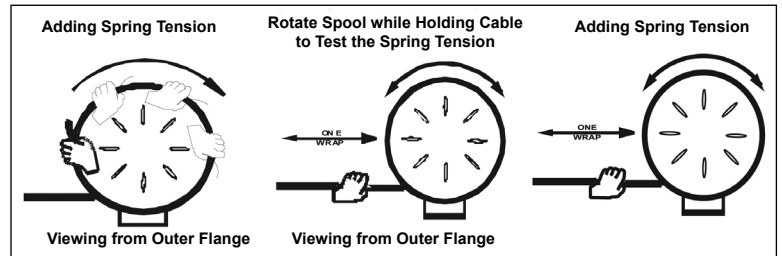

Figure 9
4. With all the cable wound on the reel, grasp the end of the cable and rotate the drum and cable together in a clockwise direction in order to pre-tension the spring. Generally, one full turn is adequate for most applications. Use no more than two full turns for pre-tension. See Figure 9.
6. Repeat steps if necessary to add or decrease tension. See Figure 9.